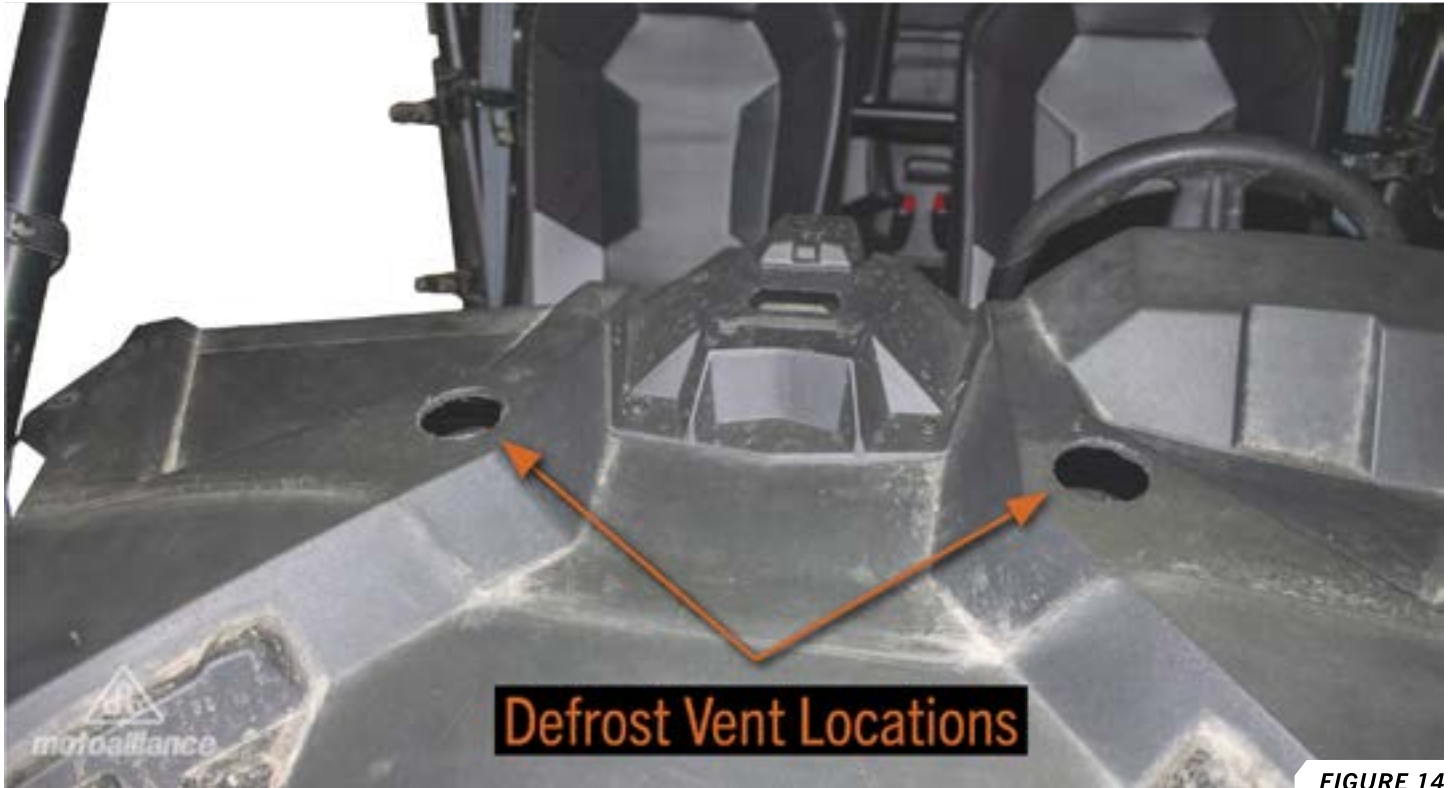

FIGURE 14
30. Pre-mark the center location for the defrost vents on the upper part of the dash (Note: On the passenger side, be aware of the upper glove box area so you do not drill into it). **FIGURE 14**